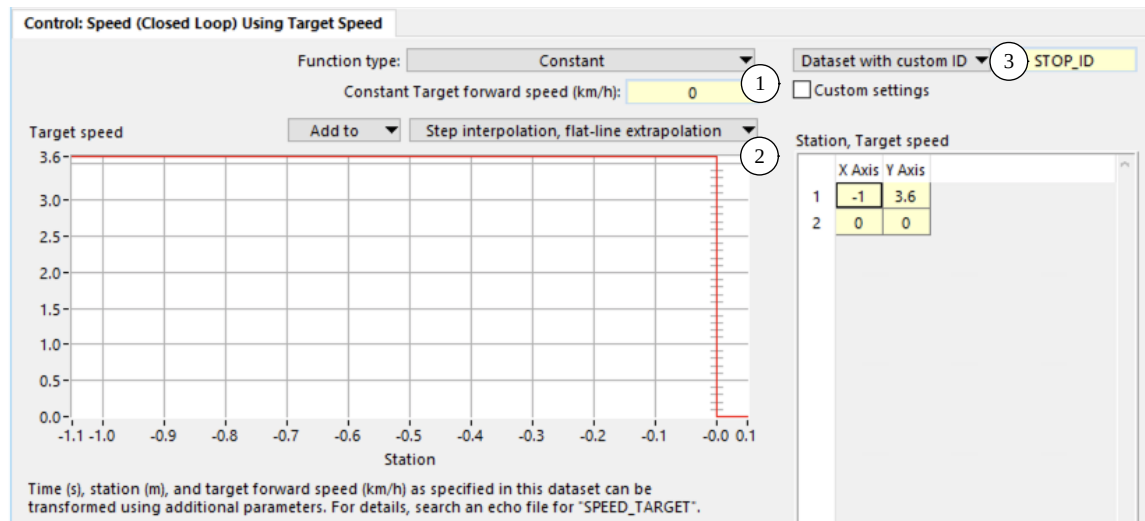

Figure 47. Normalized target speed dataset with 1 m/s (3.6 km/h) constant for  $S < 0$ , then 0.
If an Event is triggered to cause the vehicle to stop for a stop sign or red light, the speed target dataset might be switched to a normalized speed dataset (Figure 47).
1. The current SPEED\_TARGET index ISPEED is set, based on the parameter STOP\_ID via the VS Command SET\_ISPEED\_FOR\_ID (2). This SPEED\_TARGET dataset is the one shown in Figure 47.
2. The vertical (speed) scale SPEED\_TARGET\_GAIN is set to the current vehicle speed, Vxz\_Fwd (3). Multiplying this scale with the original value of 1 m/s means the SPEED\_TARGET dataset now has an initial value equal numerically to the current value of Vxz\_Fwd.